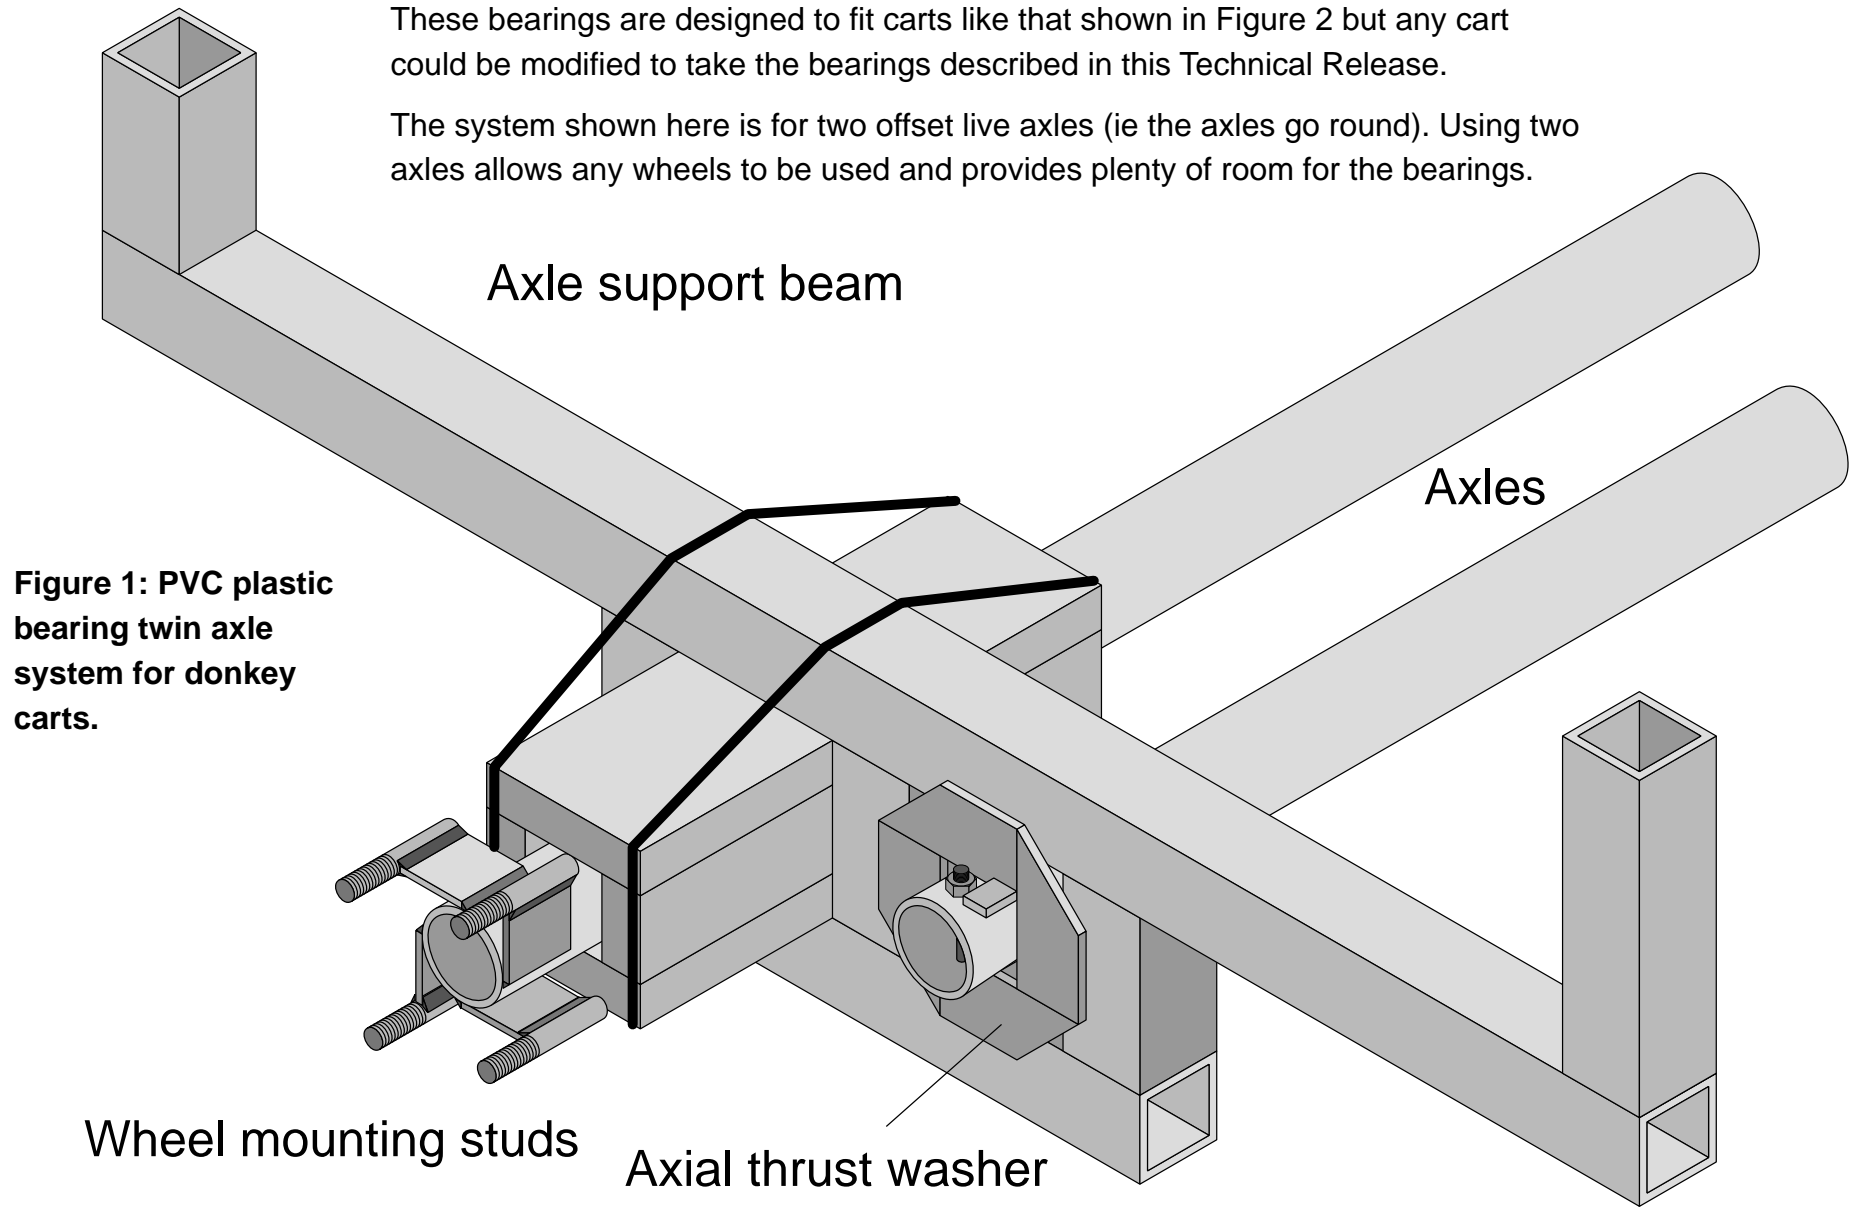
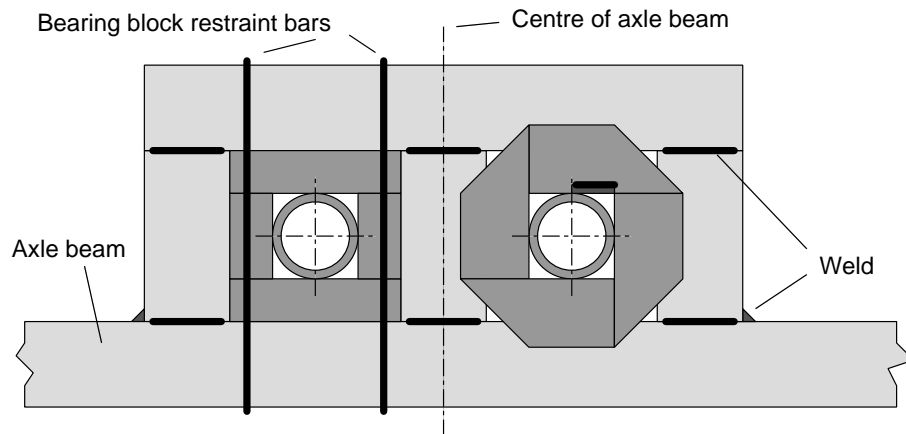

Figure 1: PVC plastic bearing twin axle system for donkey carts.
Figure 11: axial bearing washer.
- 8) Fit the bearing blocks and fix them in place with loops of 8 to 12mm round bar as shown in Figure 1 and Figure 11.